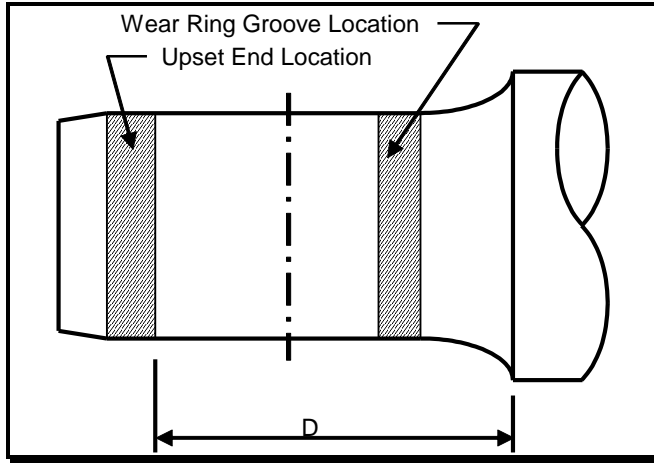

Figure 1 – Journal "Upset" Location
- 3) **Check the journal end for an upset condition** that can occur as a result of excessive force used during wheel press operations. The oversized "mushroomed" end can adversely affect bearing performance. Figure 1 shows the potential upset location. The limit is .003" [0.076mm] above the maximum journal diameter.